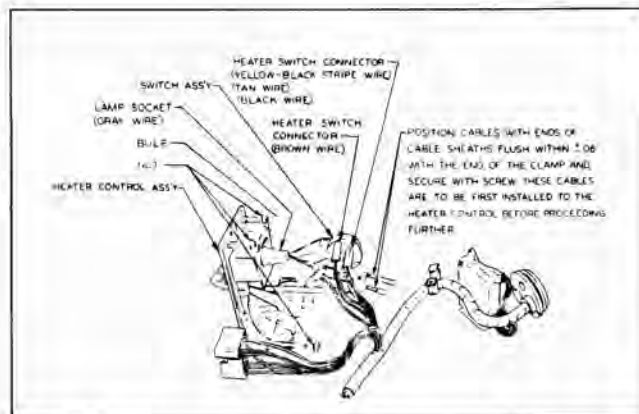

Fig. 2A-22 Connections at Tempest Control Panel
6. Replace by reversing the above procedure (Fig. 2A-22).